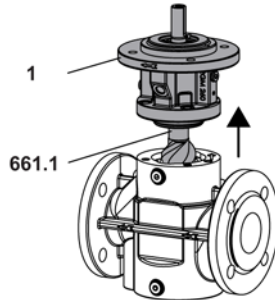

Fig. 19
2. Pull the withdrawable unit out of the main screw 661.1 and the flange cover 1 out of the pump housing, see Fig. 19.